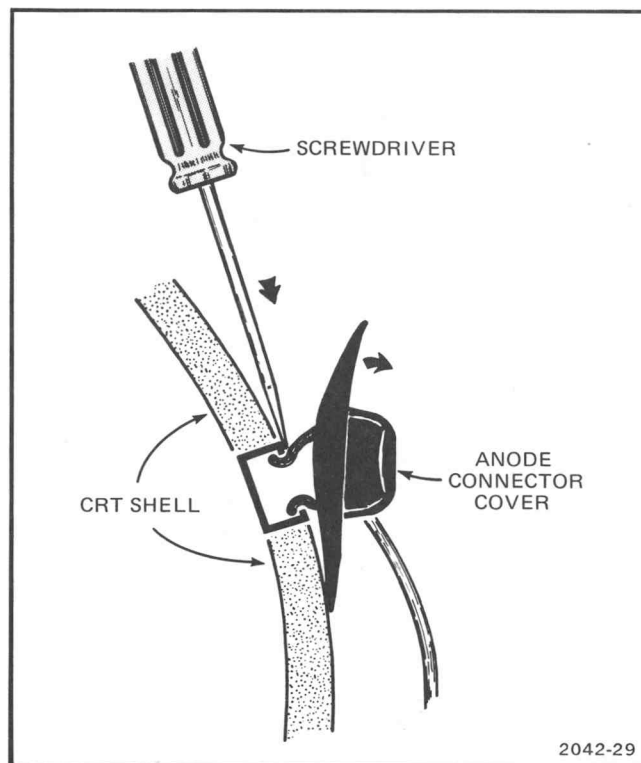

Fig. 5-8. Crt-anode connector removal and installation.
2. Disconnect crt-anode connector. See Fig. 5-8 .
4. Disconnect crt-anode lead. See Fig. 5-8.